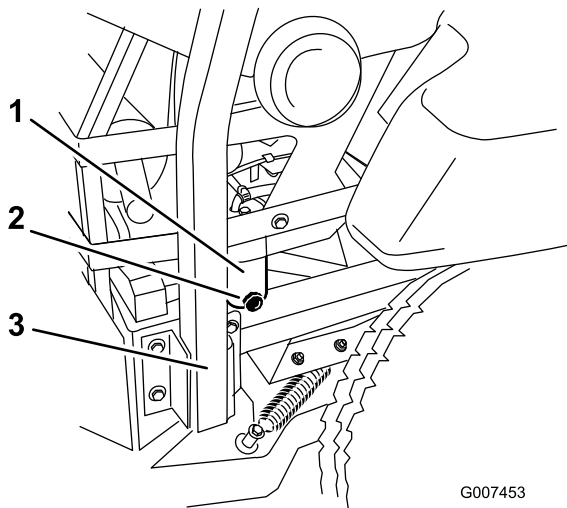

Figure 15
6. Open the drain valve on the water separator approximately one turn to allow water and other contaminants to drain (Figure 15).
7. Close the drain valve when only diesel fuel comes out (Figure 15).